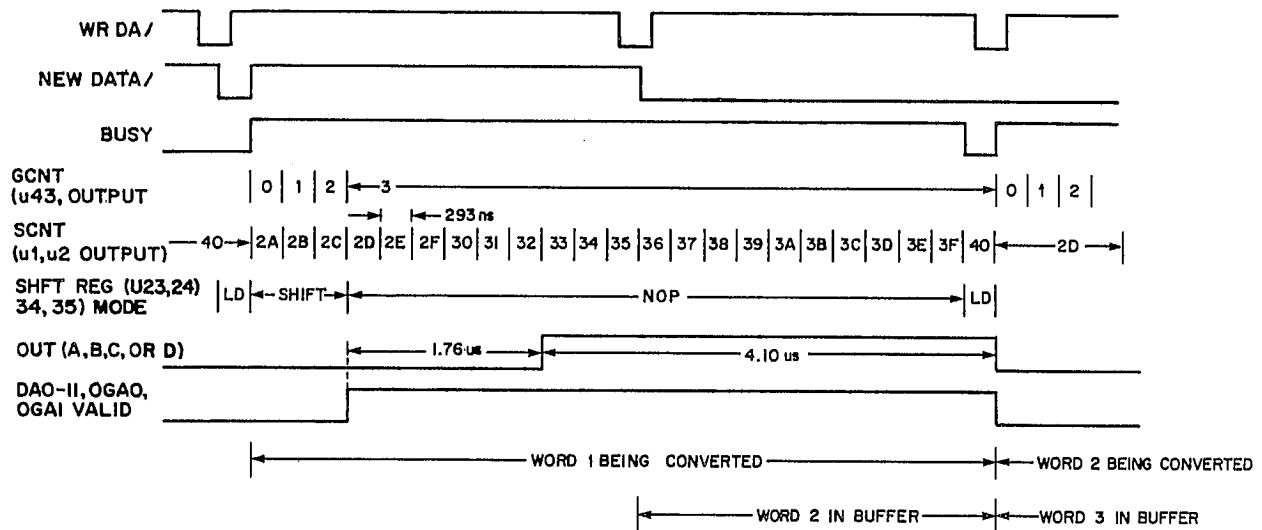

Fig. 3.6. Fixed-to-Floating-Point Conversion and D/A Cycle Timing.
When the shift register is loaded, strobe counter, U1, U2, and output gain counter U43 are loaded, initiating an output cycle. Refer to Fig. 3.6. The output gain counter counts up from zero and the shift register shifts left until NOR gate U14 pin 4 detects one of two conditions: (1) The sign bit is about to be shifted out of the shift register (that is, the two MSBs disagree). When STOP/ goes low, the fixed-to-floating-point conversion is complete. (2) The counter has incremented three times.